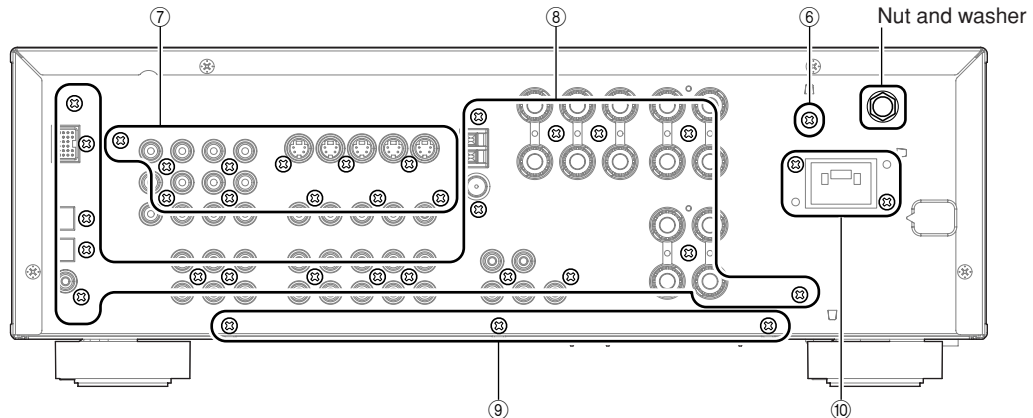

Fig. 3
- a. Remove screw (⑥). (Fig. 3)
- b. Remove nut and washer. (Fig. 3)
- b. Remove 11 screws (⑦). (Fig. 3)
- a. Remove 18 screws (T, G, E models)/19 screws (B model) (⑧), 3 screws (⑨) and 2 screws (⑩). (Fig. 3)
- b. Remove 3 screws (9). (Fig. 3)